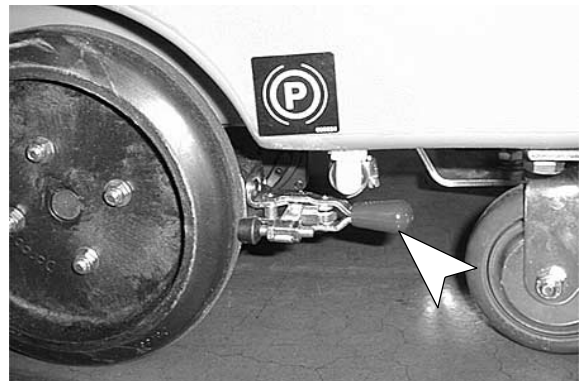

FIG. 18
5. Set parking brake if equipped (Figure 18).